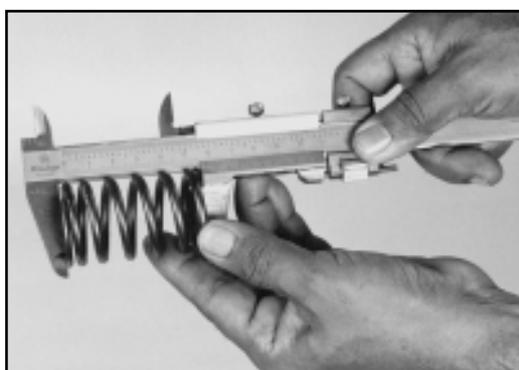

Fig.9-22
- Measure free length of valve spring, check for cracks or other damages. Fig.9-22. Replace if required. (Refer to Specification Data.)